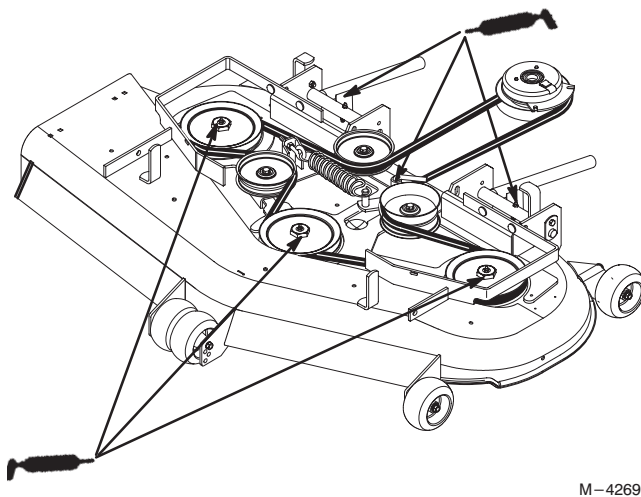

Figure 34
2. Grease the fittings on the three spindle bearings (Fig. 34).
3. Grease the idler pulley pivot (Fig. 34).
4. Grease the fittings on the push arms (Fig. 34).